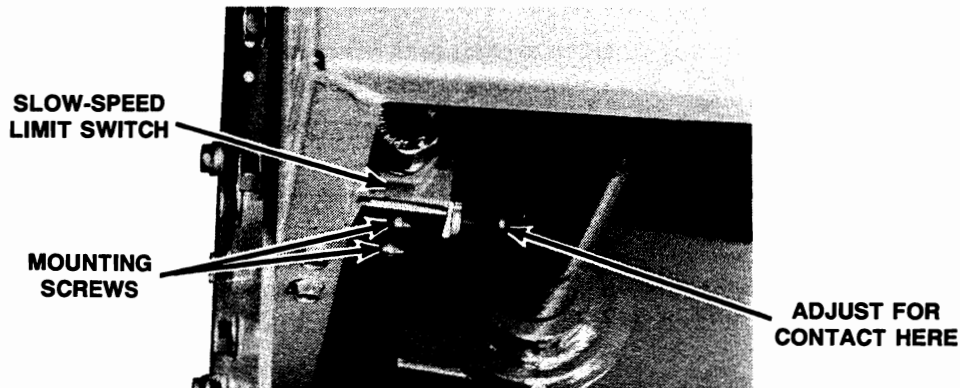

Figure 15. Slow Speed Adjustment Switch.
- a. Raise platform approximately four (4) feet.
- b. Loosen switch mounting screws and adjust switch in or out to activate circuit (Figure 15). The slow-speed valve will then be energized when platform reaches a height of four (4) feet, limiting machine travel to slow speed.